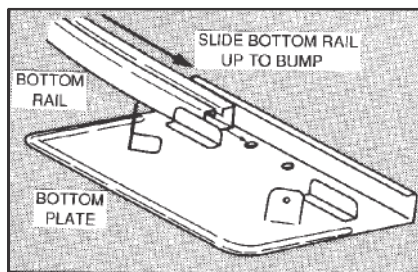
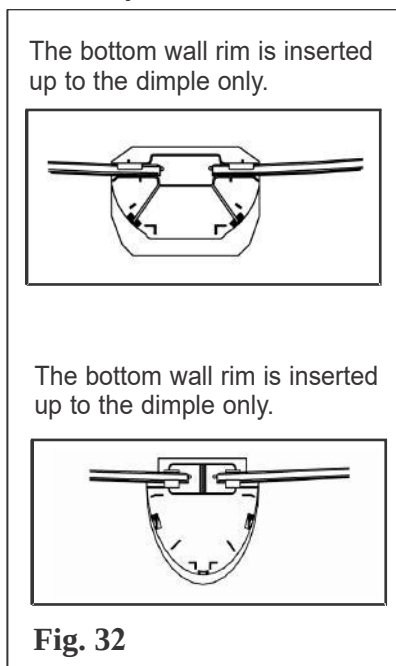

Fig. 31
Fig. 32
- In most size pools, the four 39" bottom wall rims are for the "corners." One side snaps into the straight side connector on the final straight side upright, while the other side slides into a bottom plate or bottom cuff as shown in Fig.31 or Fig.32.